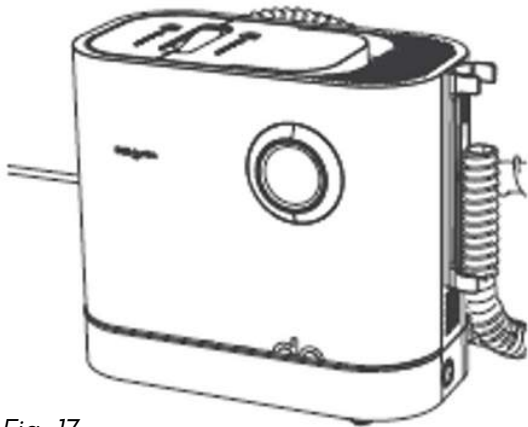

Fig. 17
4. Install the clean water tank onto the appliance correctly and then press the switch button to activate the appliance, after it, press the water spray/steam button to spray water or release steam according to your demand (see Fig.17).